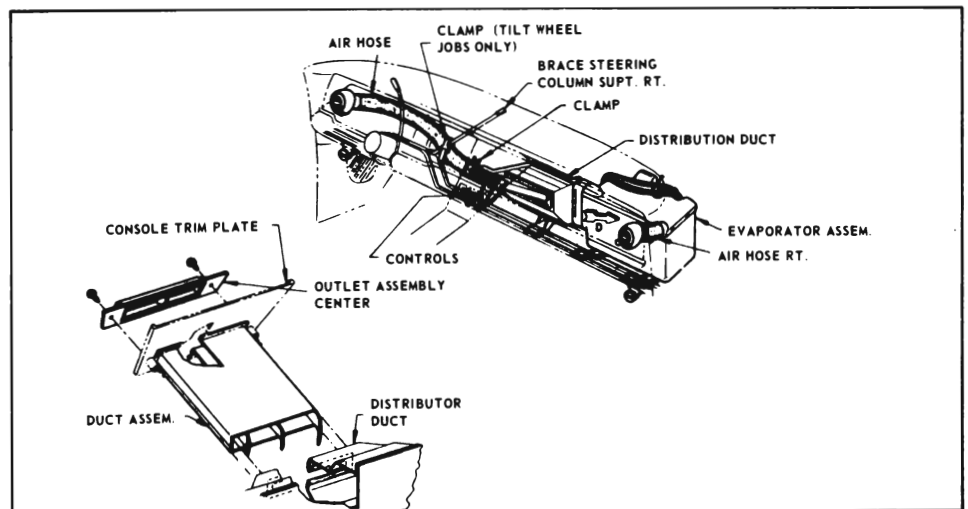

Figure 11-54—Air Conditioner Outlets - 4700 Series
9. Air Outlets. The air conditioner air outlets are entirely separate from the heater outlets and are located as shown in Figures 11-54 and 11-55.